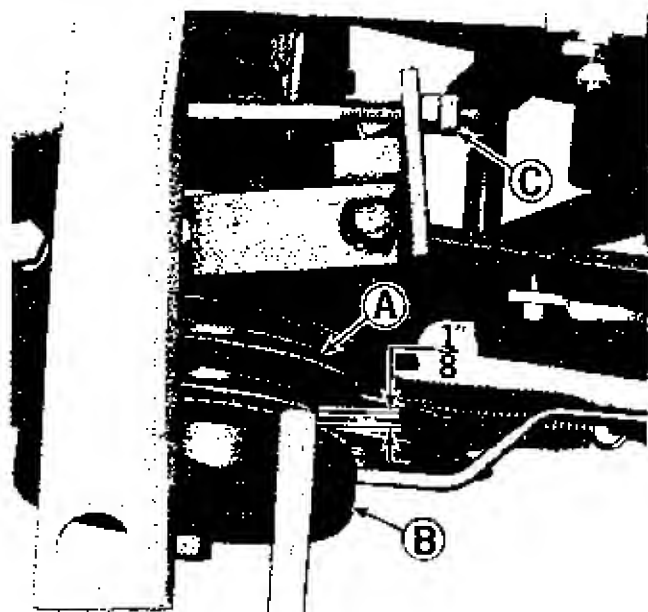

Figure 16. Power take off clutch.
See figure 16. The power take off clutch is properly adjusted when pulley (A) moves $1/8''$ when the power take off control lever is engaged and disengaged. If adjustment is required, proceed as follows: